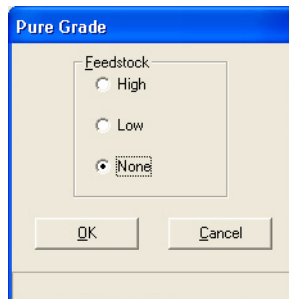
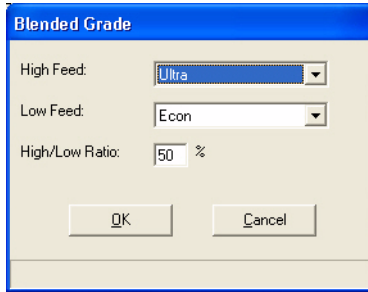

Figure 9-19 Pure Grade Window
Figure 9-20 Blended Grade Window
- **Feedstock** - To access this feature, select the **Feedstock** button. If the grade you are modifying is a pure grade type, then the Pure Grade window will appear. See Figure 9-19. If the grade you are modifying is a blend grade type, then the Blended Grade window will appear. See Figure 9-20.